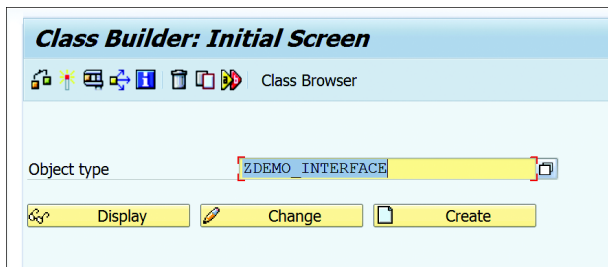
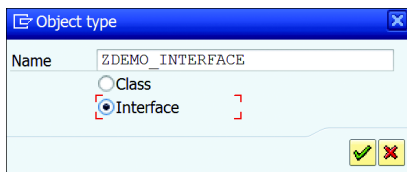

Figure 8.13 Class Builder: Initial Screen
Figure 8.14 Object Type Selection Dialog Box
1. On the initial Class Builder screen (Transaction SE24; see Figure 8.13), enter the name of the interface and click the CREATE button. If the name starts with *ZIF*, Class Builder will automatically create an interface; otherwise, you'll see a dialog box (see Figure 8.14) to choose whether to create a class or interface.